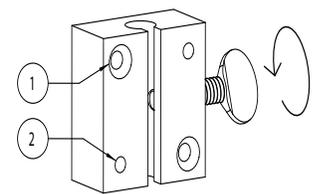

Figure 4
1. Use the included 1.25" flat head wood screws to fasten to a thick wood surface. The screws will fit into the two countersunk holes in the bracket as designated by the #1 in Figure 4. We recommend this mounting solution above all others.
2. If the only surface available to mount to is made of thin wood (less than 1/4" thick), we recommend mounting using the included 3/4" panhead wood screws with the included washers. Two holes will need to be made through the wood panel to allow the screws to pass through. Then, fasten the screws into the plastic mounting bracket holes designated as #2 in Figure 4. When completed, the wood panel should be sandwiched between the washers and the plastic bracket.
4. Attach the fixture to the mounting bracket by sliding the arm in vertically. Lock the arm in place by tightening the thumb screw shown as indicated in Figure 4.